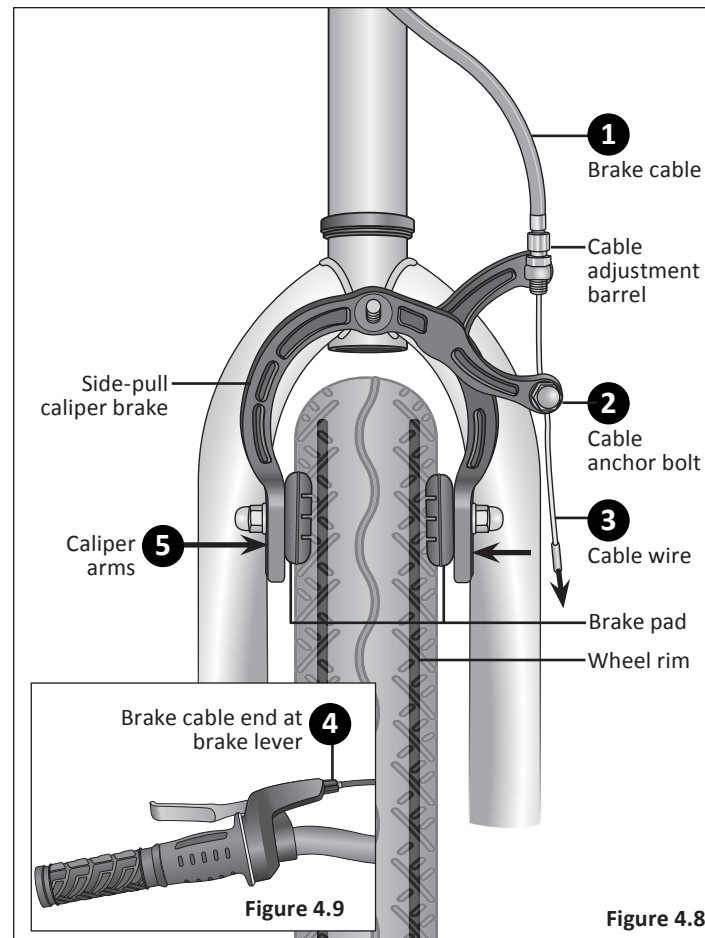

Figure 4.8
- 1 If the brake cable is disconnected at the caliper, thread the brake wire through the adjustment barrel. **Figure 4.8**